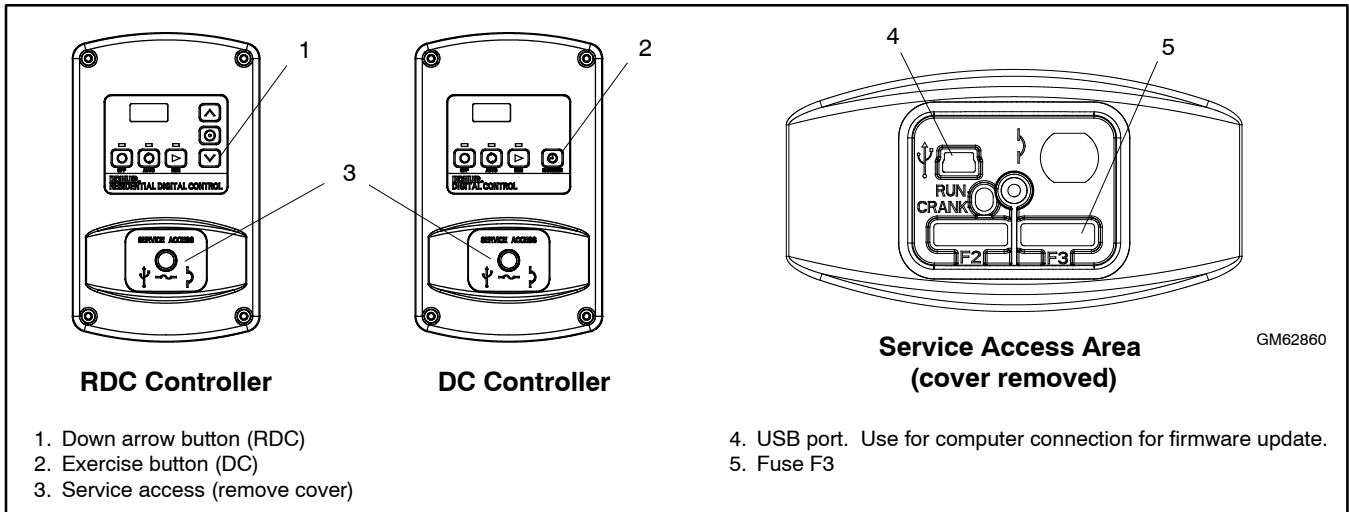

Figure 5 RDC and DC Controllers
2. Remove fuse F3, located in the controller's service access area, to remove power from the RDC controller. See Figure 5 for the fuse location.
- b. Press the down arrow button (RDC) or exercise button (DC) 5 times. See Figure 5.
27. Update the controller firmware. Use a USB cable to connect the controller directly to a computer. See Figure 5. Use OnCue software, SiteTech software, or the USB Utility to update the controller firmware. See Controller Firmware Update in this document. Also see the OnCue Software Operation Manual, the SiteTech Software Operation Manual, or the USB Utility instruction sheet for instructions, if necessary.
Connect the controller to the PC or laptop computer using a USB cable connected to the USB port on the controller. See Figure 5. For instructions to load the firmware, see TP-6796, OnCue Software Operation Manual; TP-6701, SiteTech Software Operation manual; or TT-1636, USB Utility Instructions.